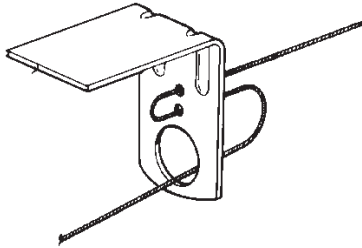
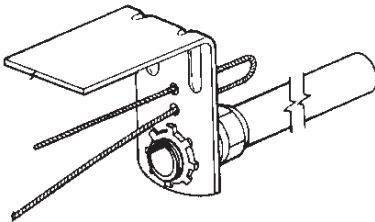
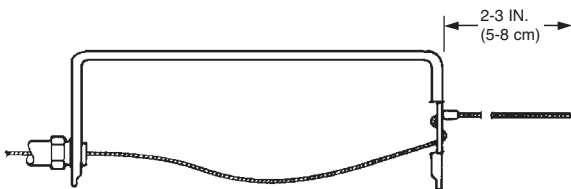

FIGURE 18
FIGURE 19
FIGURE 20
- Feed the wire rope through the terminal detector bracket as shown in Figure 18 or as shown in Figure 19 if the terminal detector is mounted within a duct or header opening, and install the stop sleeve approximately 2 to 3 in. (5 to 8 cm) from the end of the wire rope. See Figure 20. Use the National Telephone Supply Company Nicopress Sleeve Tool (Stock No. 51-C-887) or equal to properly crimp the stop sleeve.